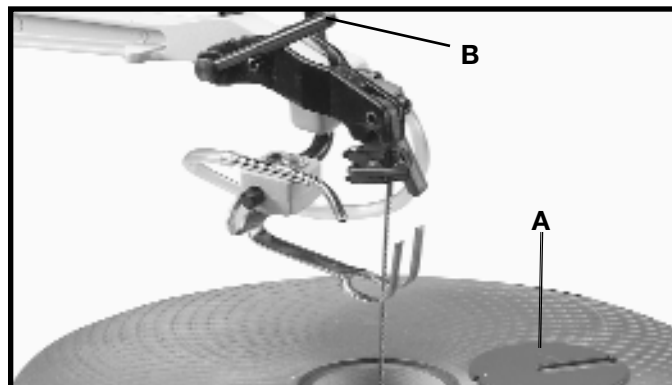

Fig. 22
2. Remove table insert (A) Fig. 22, and release blade tension by pulling tension lever (B) forward, as shown.